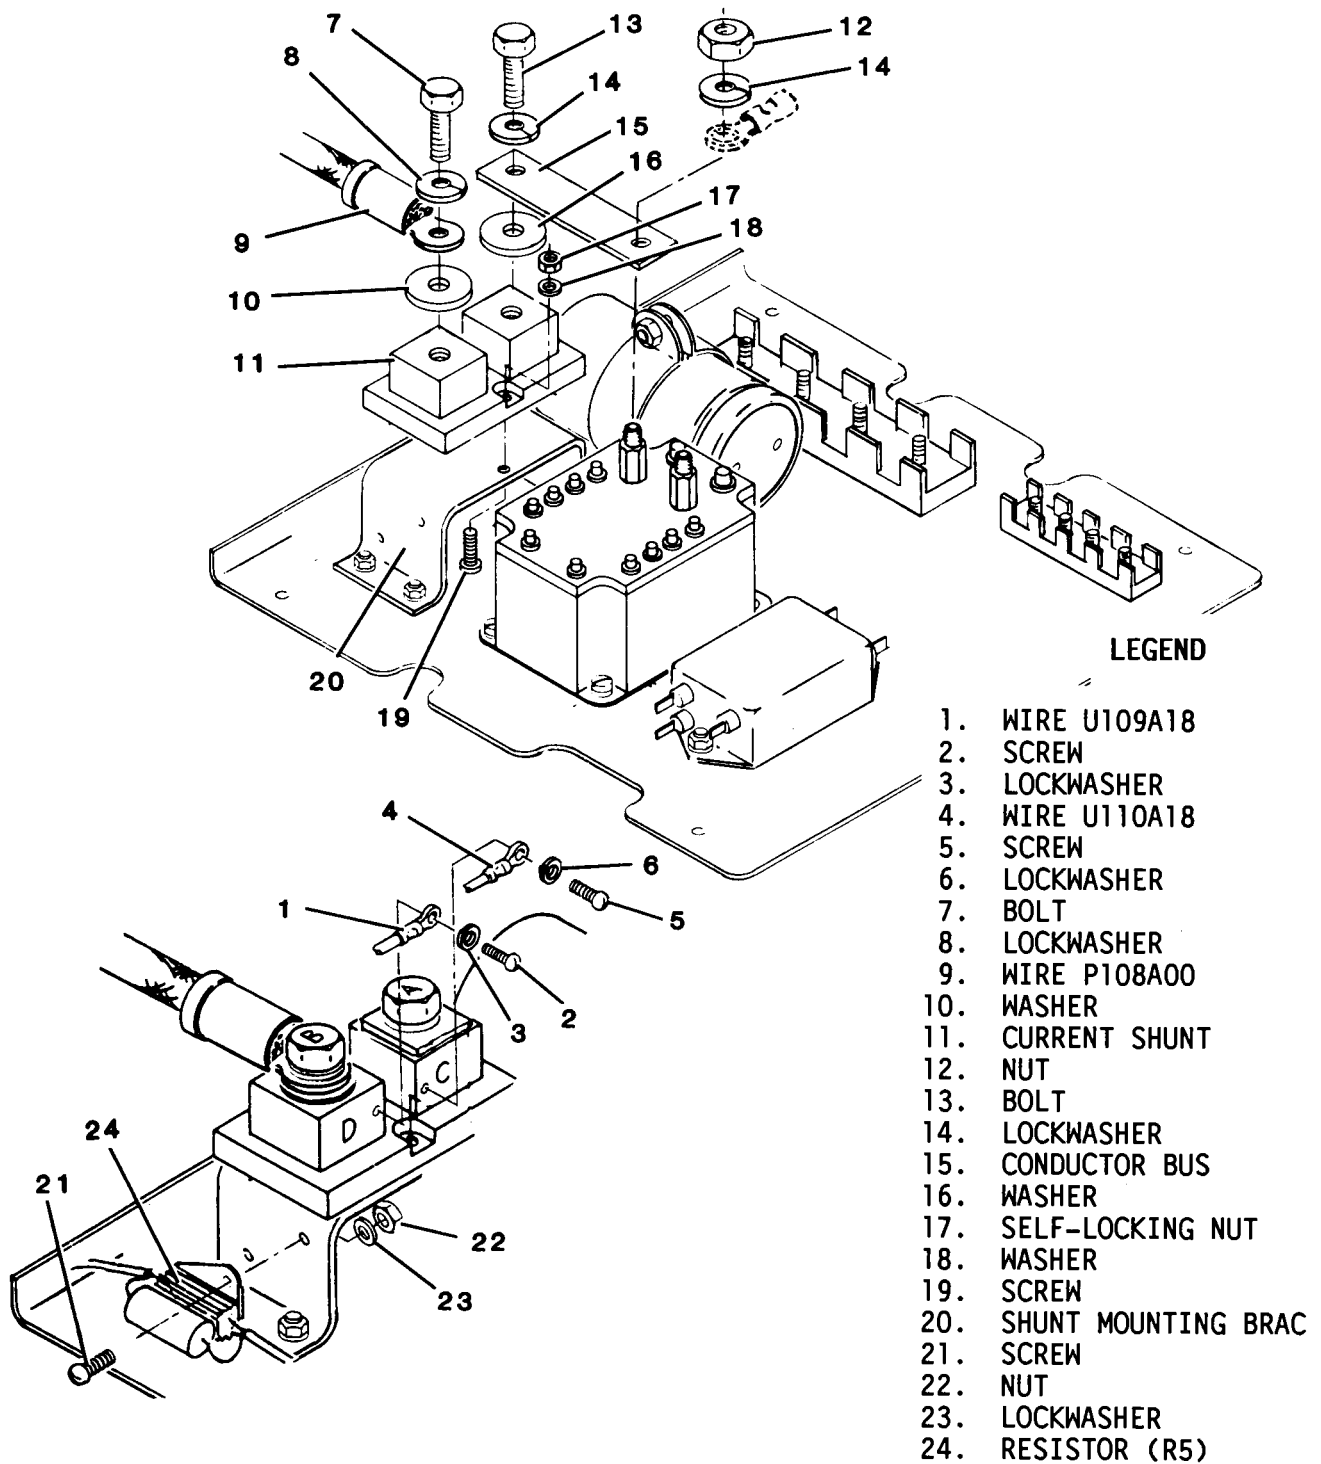

Figure 4-52. Current Shunt (1000 Amp)/Resistor (R5)
4-84. CURRENT SHUNT (1000 AMP). Maintenance of the 1000 amp current shunt (figure 4-52) is limited to inspection and replacement.
(2) Disconnect battery cable plug connector.
(3) Unlatch and open inlet air housing access door. Secure in open position.
(4) Loosen turnlock fasteners and remove engine housing access cover.
(5) Remove air baffle from inlet air housing (paragraph 4-22).
(6) Ensure that current shunt (9, figure 4-52) is securely mounted. Tighten any loose connections.
(7) Check input and output lugs for discoloration. Discoloration could indicate a loosening of connections while the generator set is operating. Tighten any loose connections.
(8) If current shunt is dirty, clean with compressed air or with an electrical grade solvent.
(9) Check current shunt for damage. Replace shunt if physically damaged.
(10) Install air baffle (paragraph 4-22).
(11) Install engine housing access cover and secure with turnlock fasteners.
(12) Close and securely latch inlet air housing access door.
(13) Connect battery cable plug connector.
(14) Stow power cable on cable support.
(1) Remove component mounting panel (paragraph 4-82).
(2) Tag wire U109A18 (1, figure 4-52). Remove screw (2) and lockwasher (3) to disconnect wire from terminal D.
(3) Tag wire U110A18 (4). Remove screw (5) and lockwasher (6) to disconnect wire from terminal C.
(4) Tag wire P108A00 (9). Remove bolt (7), lockwasher (8), wire P108A00 (9), and washer (10) from current shunt (11).
4-88. RESISTOR (R5). Maintenance of resistor R5 (24, figure 4-52) is limited to replacement.